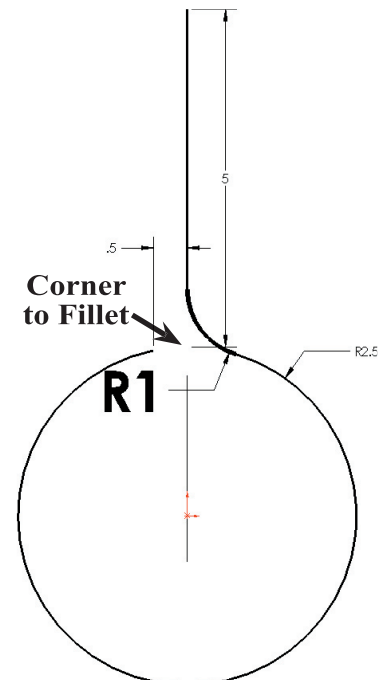

Fig. 7
Step 3. Click the corner shown in **Fig. 7** where the arc and line intersect.